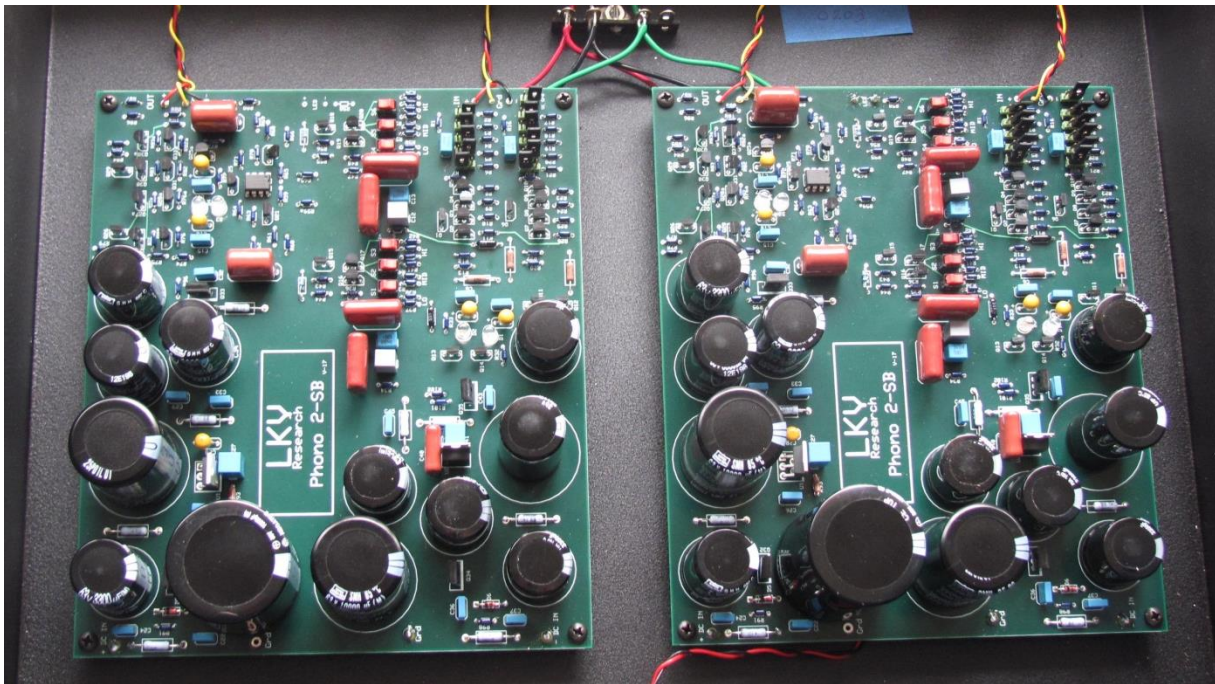
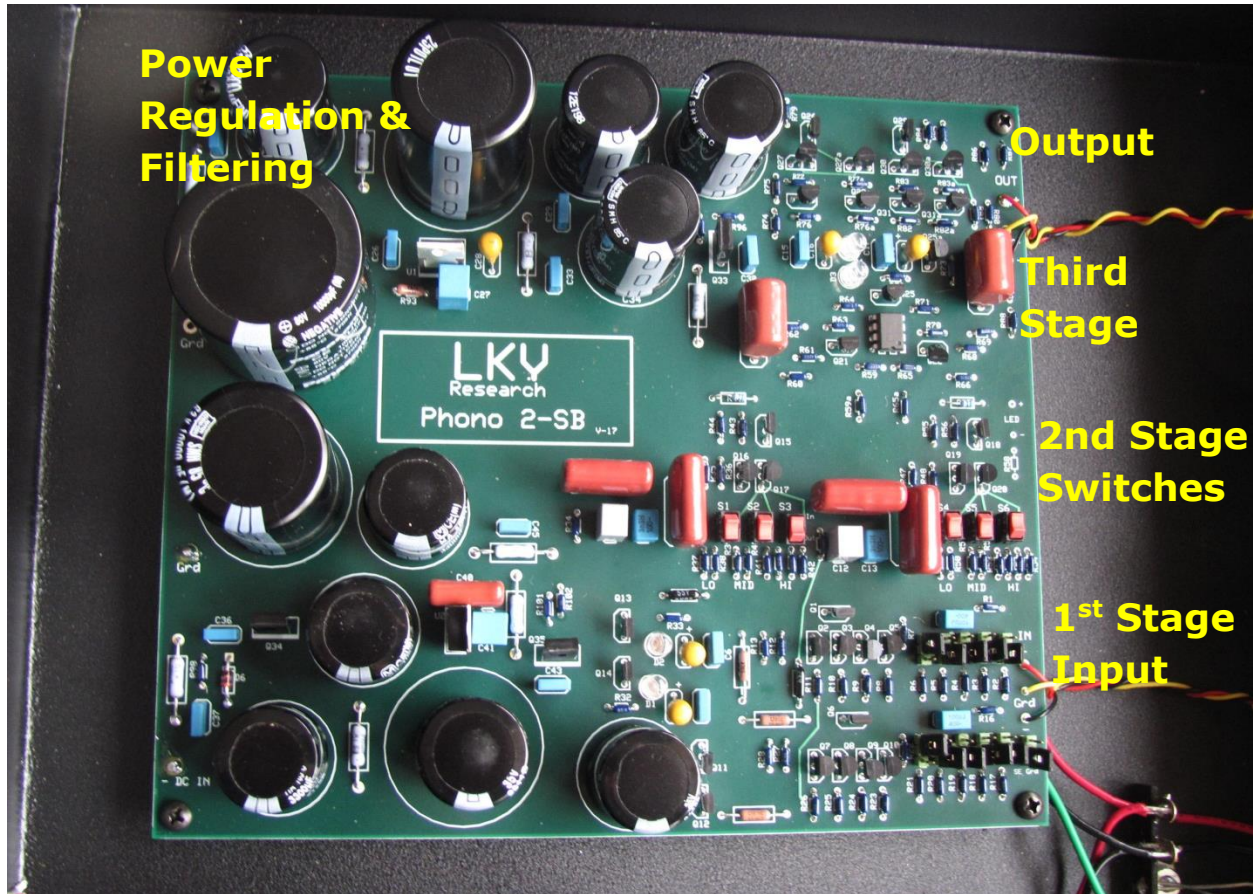

Figure 1 – top down view of interior.
Figure 2 –Circuit board for one channel.
The main box. You will need to open this box to adjust gain and cartridge loading. **Before opening it, disconnect the umbilical power cord from the socket marked “Pwr In” on the back of the main box and wait 5 minutes for the capacitors to discharge. Doing so will reduce the chance of damage to the unit and protect against electric shock.** Then, remove the 4 Phillips head screws, two on each side of the cover flange and lift off the cover. Figure 1 shows a view from above of the interior of the main enclosure. Figure 2 shows one of the two, identical circuit boards. Marked on the figure are 5 functional areas: 1) power regulation and filtering, 2) input and first gain stage, including the headers and shunts used to set cartridge loading, 3) second gain stage, including the rocker switches used to set gain, 4) third gain stage, and 5) output stage. The only user adjustable items on the board are the headers with shunts in the input area and the small rocker switches in the second gain stage. Their use is discussed below in the sections on Setting Cartridge Load and Gain, respectively.
Gain settings are selected using the small red rocker switches in the Second Gain Stage of each of the circuit boards in the main enclosure. They are shown in Figure 2 above and in close-up view in Figure 5, below.
2. Orient the main box so the circuit boards in the box line up in the same direction as the board in Figures 2 and 5. One side of the box should be toward you and the front should be to your right.
Resistive load is adjusted using the headers and shunts found on the main circuit boards. These are shown and marked in Figures 2 and 5, above. The headers are the small, plastic blocks with three metal prongs sticking up. The shunts are the plastic caps that fit over two of the three prongs on each header. As shown in Figure 5, there are two banks of 5 headers and shunts on each circuit board. Each header connects to a corresponding load resistor; the load seen by the cartridge is determined by the positions of the shunts on the headers.
In the diagrams below, each 3 prong header is represented by a vertically oriented rectangle that is divided into three parts or boxes. Each box within a rectangle represents one of the prongs of the header. The rectangles are oriented to correspond to the way you will see the headers when you look at one of the circuit boards with one side of the box toward you and the front of the box to your right. This orientation is the same as that shown in Figures 2 and 5. To set a particular cartridge resistive load with the 2-SB in Balanced input mode, follow these steps: